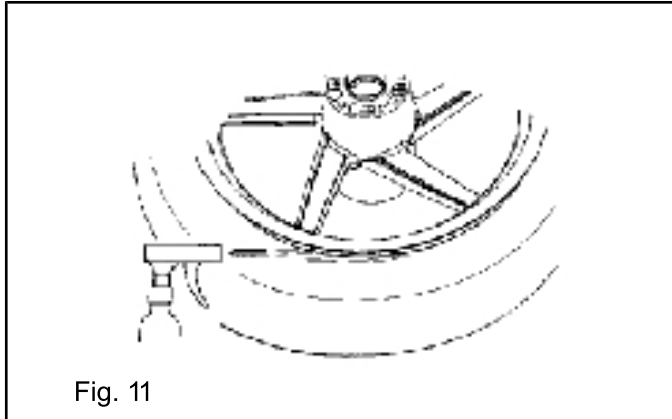

Fig. 11
1. Lubricate both tire beads with rubber lubricant. (Fig. 11)